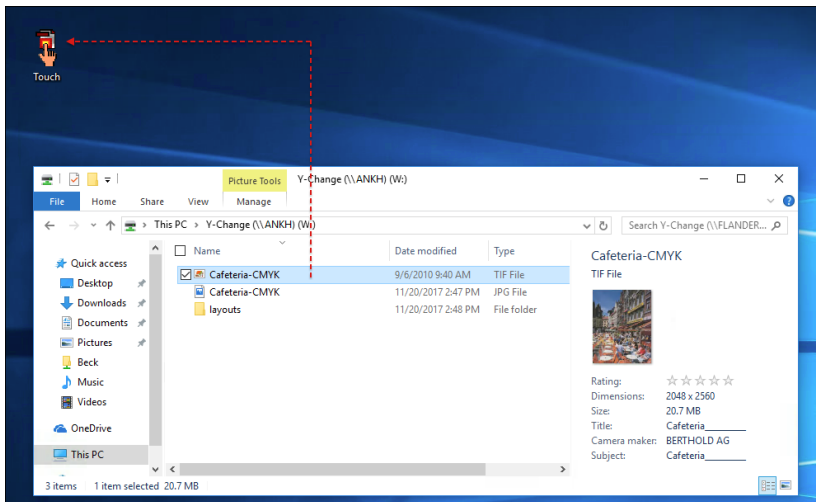

Fig. 5.5: “touching” an image
- Drag the image file(s) you want to re-layout onto the “touch” icon (Fig. 5.5).